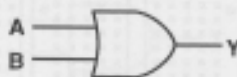

Fig. 10, Logic Symbol
1. Complete the wiring diagram based on the schematic diagram (Figure 10) and wiring procedure.